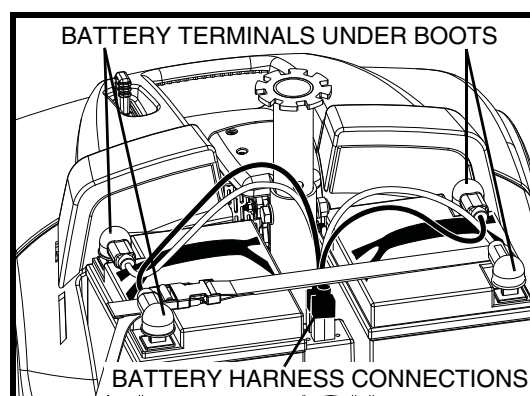

Figure 11. Battery Removal/Installation
3. Disconnect the battery harnesses by pulling them straight up. **See figure 11.**